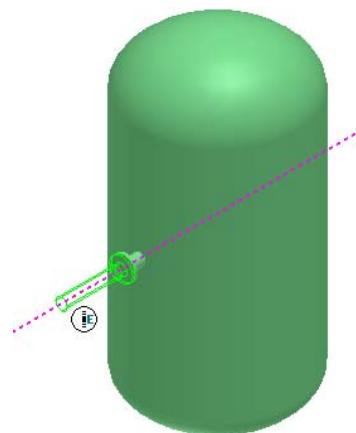

Figure 31: Placed Pipe
8. Move the cursor towards the left until SmartSketch displays the **E** glyph, as shown in Figure 31. The **E** glyph indicates that you are routing the pipe in the west direction. Click in the graphic view to place the pipe.